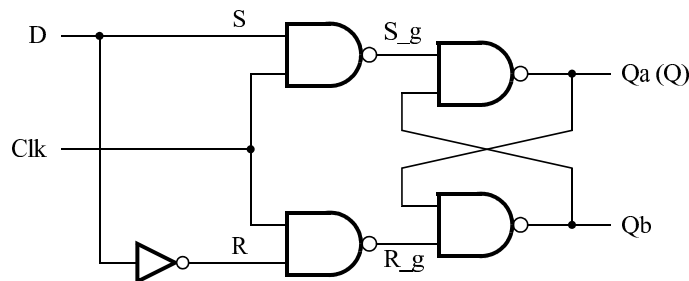

Figure 1: Circuit for a gated D latch.
Figure 1 shows the circuit for a gated D latch (textbook Section 5.3). In this part, you will build the gated D latch using the *logisim* simulator. Or if you wish, you can also do this using the breadboard you used in Lab 1.
- i. Using the *logisim* Gates library build the circuit shown in Figure 1. Note that when you select the NAND gate tool, you can first change the number of inputs to 2.